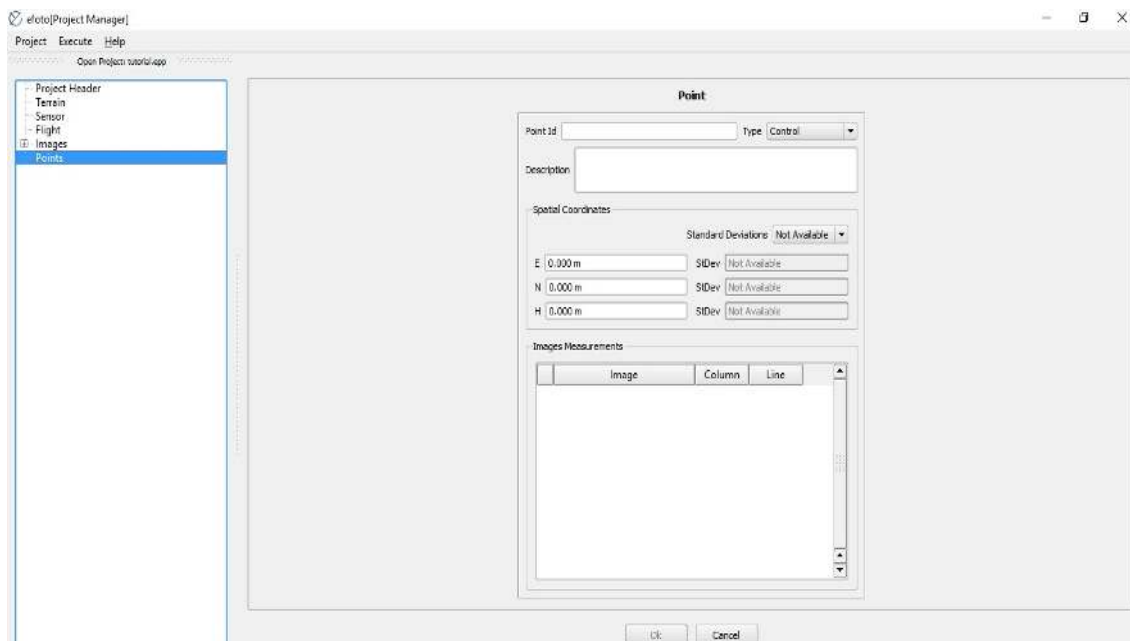

Figure 14 - The Point Form
- Adding points manually: when you click in **New** the e-foto will open the form of the point (Figure 14):